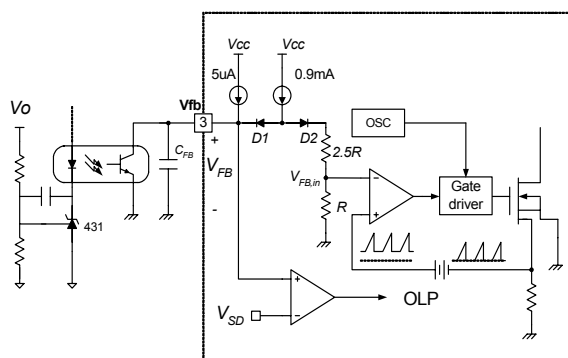

Figure 5. Pulse Width Modulation (PWM) Circuit
2. Feedback Control : The FSDx321 employs current mode control, as shown in Figure 5. An opto-coupler (such as the H11A817A) and shunt regulator (such as the KA431) are typically used to implement the feedback network. Comparing the feedback voltage with the voltage across the Rsense resistor plus an offset voltage makes it possible to control the switching duty cycle. When the KA431 reference pin voltage exceeds the internal reference voltage of 2.5V, the opto-coupler LED current increases, the feedback voltage Vfb is pulled down and it reduces the duty cycle. This event typically happens when the input voltage is increased or the output load is decreased.
4.4 Over Voltage Protection (OVP) : In the event of a malfunction in the secondary side feedback circuit, or an open feedback loop caused by a soldering defect, the current through the opto-coupler transistor becomes almost zero (refer to Figure 5). Then, V_{FB} climbs up in a similar manner to the over load situation, forcing the preset maximum current to be supplied to the SMPS until the over load protection is activated. Because excess energy is provided to the output, the output voltage may exceed the rated voltage before the over load protection is activated, resulting in the breakdown of the devices in the secondary side. In order to prevent this situation, an over voltage protection (OVP) circuit is employed. In general, V_{CC} is proportional to the output voltage and the FPS uses V_{CC} instead of directly monitoring the output voltage. If V_{CC} exceeds 19V, OVP circuit is activated resulting in termination of the switching operation. In order to avoid undesired activation of OVP during normal operation, V_{CC} should be properly designed to be below 19V.